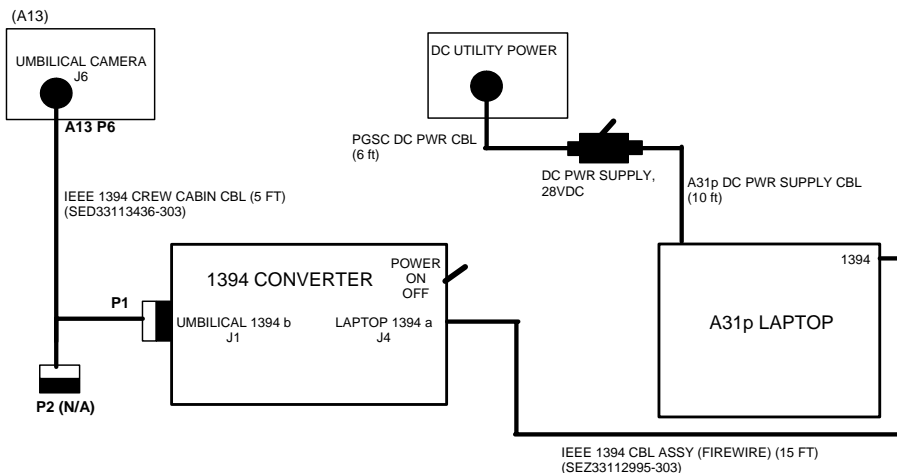

Figure 12-16.- Hardware configuration.
6. Configure hardware per figure 12-16 below: